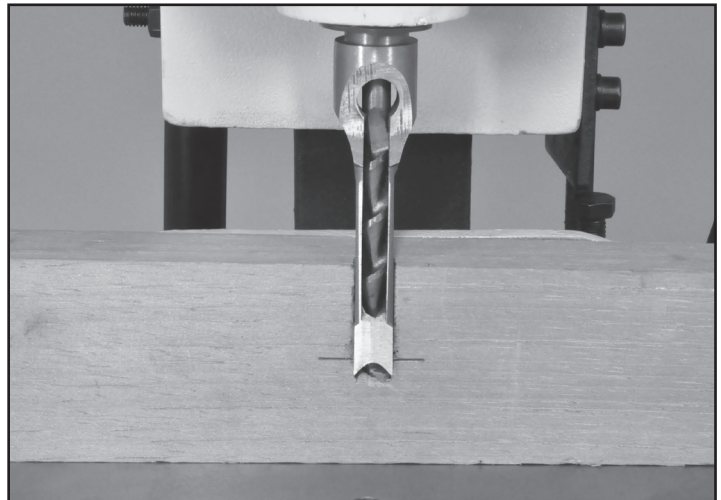

FIG. 16
1. Mark your mortise depth on the side of your work piece, or scrap material, for reference. Position the chisel and bit that you will be using against this mark. FIG. 16. To keep the mortising head in this location, the locking head Screw (#64 - see page 9) can be tightened.